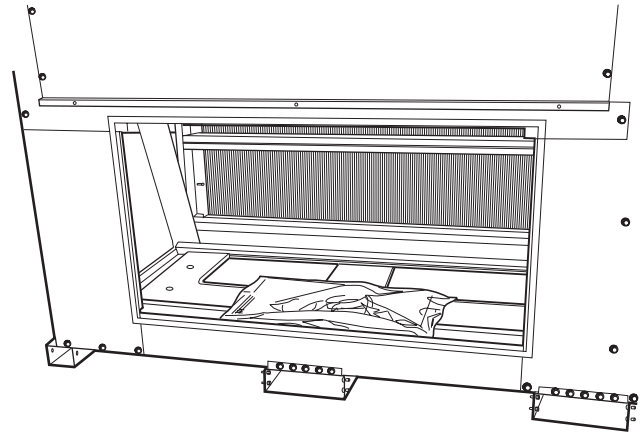

Fig. 2 — Unit Return End (48/50HG Units)
1. Remove return end cover and save screws for reuse. See Fig. 2.
1. Remove return end cover. Save screws for reuse. See Fig. 2.